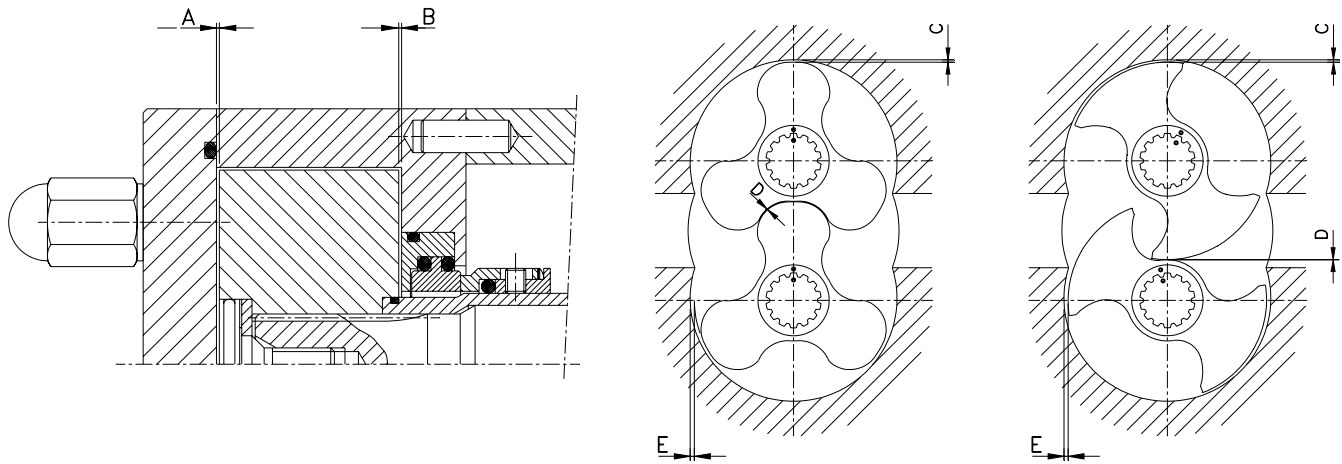

Figure 8.5
- Make sure that the clearance both behind and between the lobes is similar to that shown in table 8.3, figure 8.5.